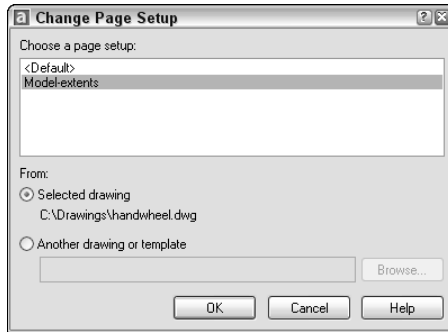

Figure 28-11: Use the Change Page Setup dialog box to choose a page setup to apply to a drawing.
- ♦ **Specify page setup:** If you have specified a page setup, you can assign it to any drawing. (You can apply model page setups to model listings and layout page setups to layout listings.) Right-click the drawing on the drawing list and choose **Change Page Setup** to open the **Change Page Setup** dialog box, as shown in Figure 28-11. Choose a page setup from the selected drawing (the drawing you right-clicked) or from another drawing. If you choose from another drawing, click **Browse** to get there and then choose the page setup. Click **OK** when you're done.